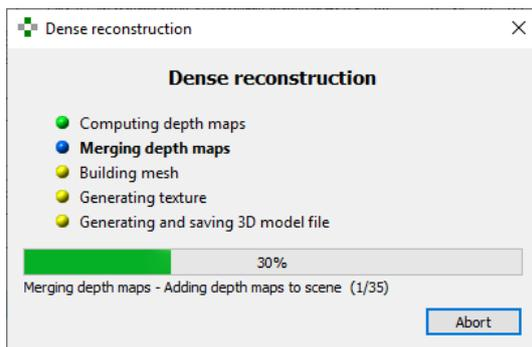

Figure 19: Progress window: Dense Reconstruction
6. Start the reconstruction process by a click on the “*Start Dense Reconstruction*”  button. The appearing progress window shows the current status of reconstruction (Figure 19).